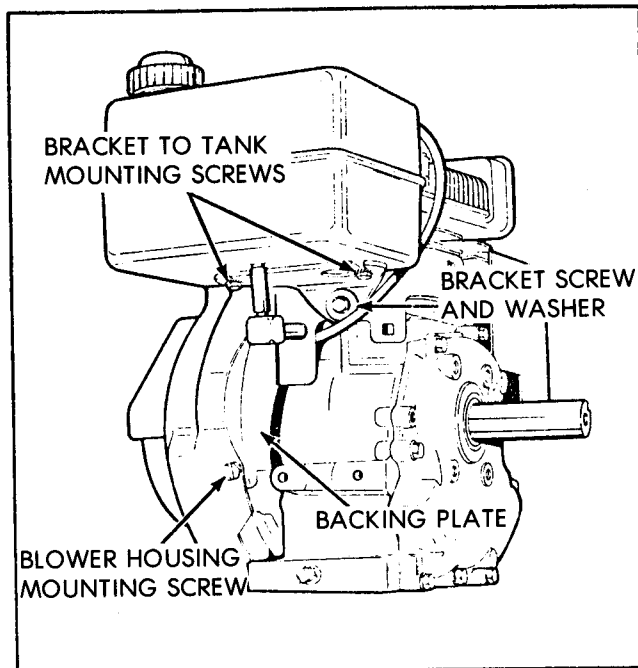

FIGURE 1
1. Loosen the blower housing mounting screw and remove the upper portion of the backing plate as shown in Figure 1.
3. Remove and discard the lower fuel tank bracket mounting screw (Figure 1) but keep the large flat washer.
4. Loosen the screws that attach the lower bracket to the fuel tank. (See Figure 1.)